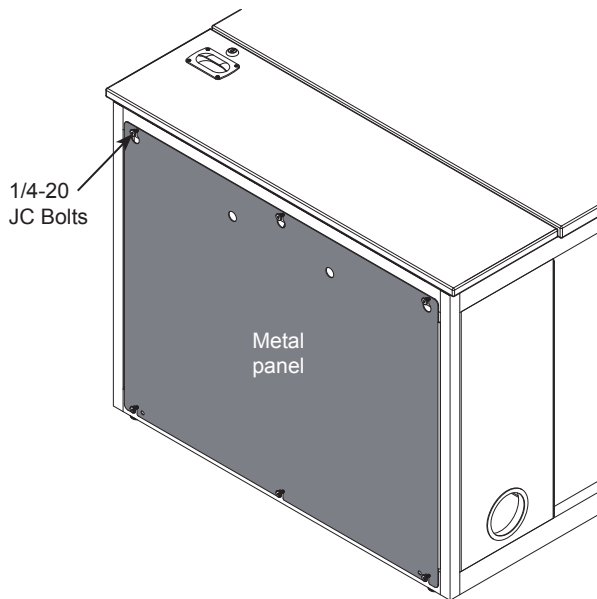

Figure 8.1
1. The panel is designed for easy removal using keyhole slots and 1/4-20 JC bolts. If the bolts are tight, slightly loosen with a 4mm hex wrench. **Figure 8.1.**